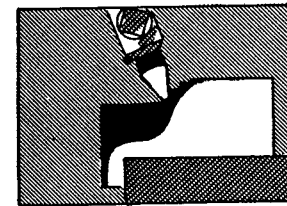

FIG. 499
6. Engage the feed and allow the tool to make a horizontal cut to within $1/8"$ of the contour line. Then, disengage the feed and move the work by hand until the tool is within $1/16"$ of the contour line (Fig. 499).